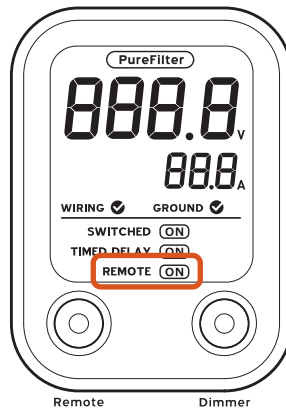

Figure 3b
- B. Press the "Remote" button on the front of the Power Console to turn on the remote function. The LCD display should read REMOTE ON. (Fig. 3b)